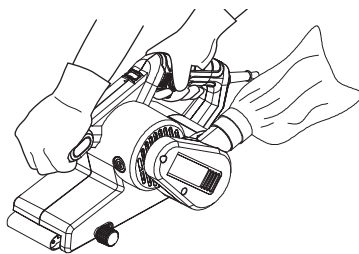

Fig. 15
2. Hold the product with one hand on the front handle (1) and with the other hand on the rear handle (5) (Fig. 15).